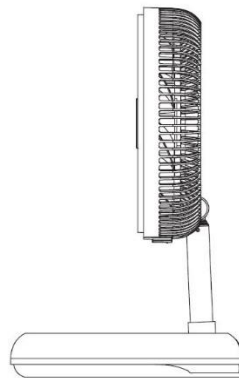

Figure 3
- When the fan grille reach 180° and parallel to the telescopic rod, the rod is locked automatically by indicating a click sound (Figure 3).